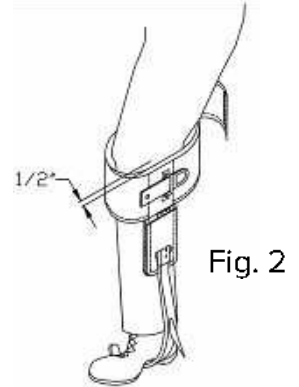

Fig. 2
2. Adjust the length of the climber using the adjustable climber sleeve so that the top of pad is 1/2" below the projecting knee bone (Fig. 2).